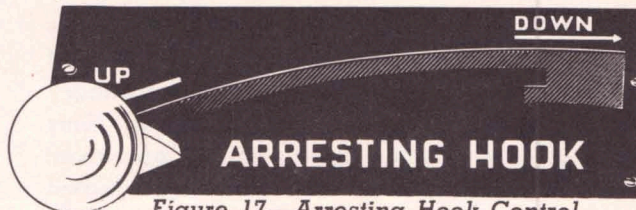

Figure 17—Arresting Hook Control
f. **ARRESTING HOOK.**—This airplane is equipped with a latch type arresting hook, the control for which is on the right console. (See figure 17.) It consists of a handle which moves in a slot having notches at each end. When the handle is locked in the notch at the forward or "UP" end of the slot the hook is held in the up position by a latch. Moving the handle aft to the "DOWN" position of the slot releases the latch and allows the hook to drop. When releasing the hook, always lock the control lever in the "DOWN" position; otherwise, when the hook bounces up from the deck, it may engage the latch and become secured in the up position.